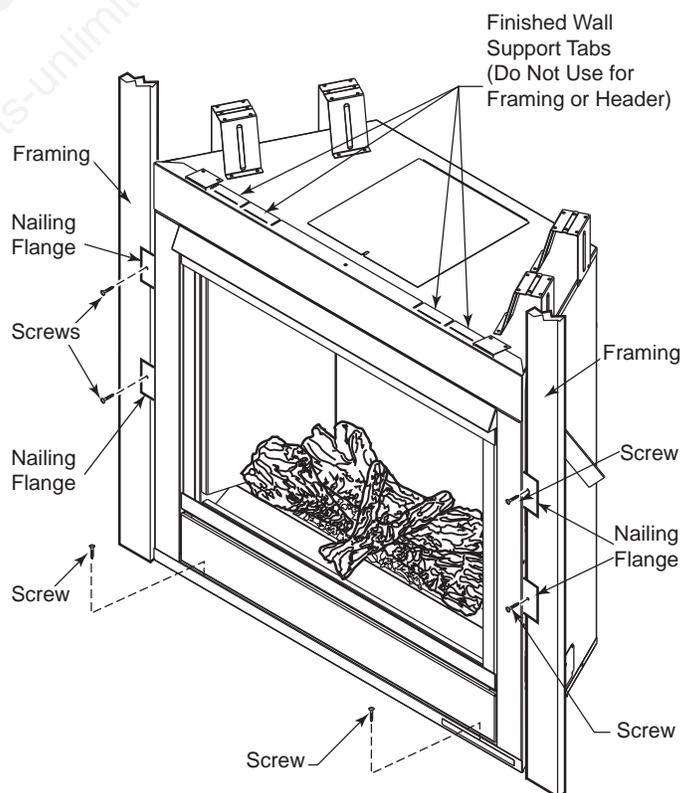

Figure 7 – Securing Fireplace to Floor and Framing Studs
The fireplace must be secured to the floor and/or to framing studs as shown in Figure 7. Use two (2) wood screws or masonry/concrete screws to secure fireplace to the floor. Use four (4) screws to attach fireplace to framing. The side nailing flanges are 1/2" or 5/8" to accommodate different wall thickness.